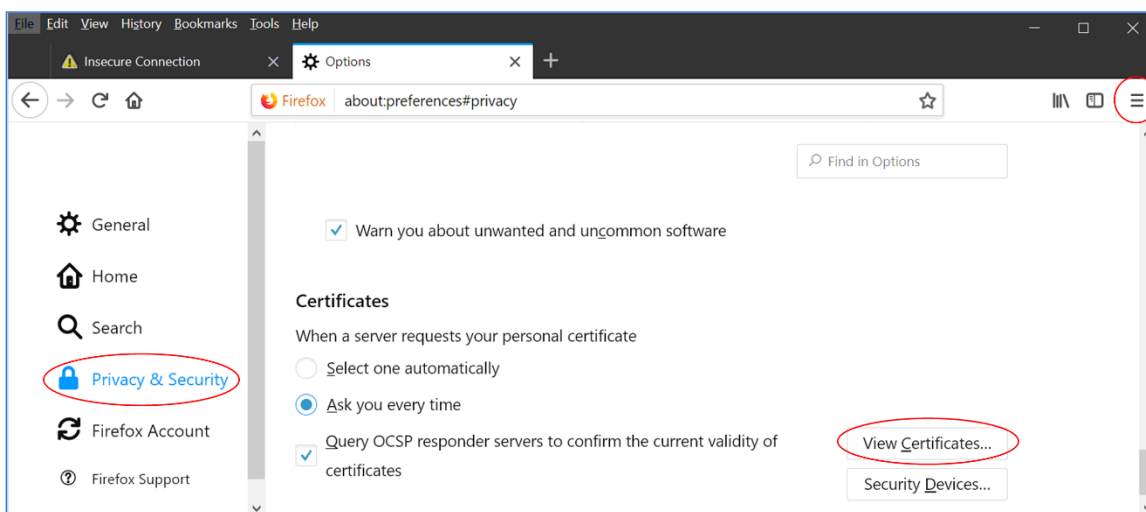

Figure 170: Firefox Options Interface
2. Select Options. The Options tab displays, as shown in Figure 170.